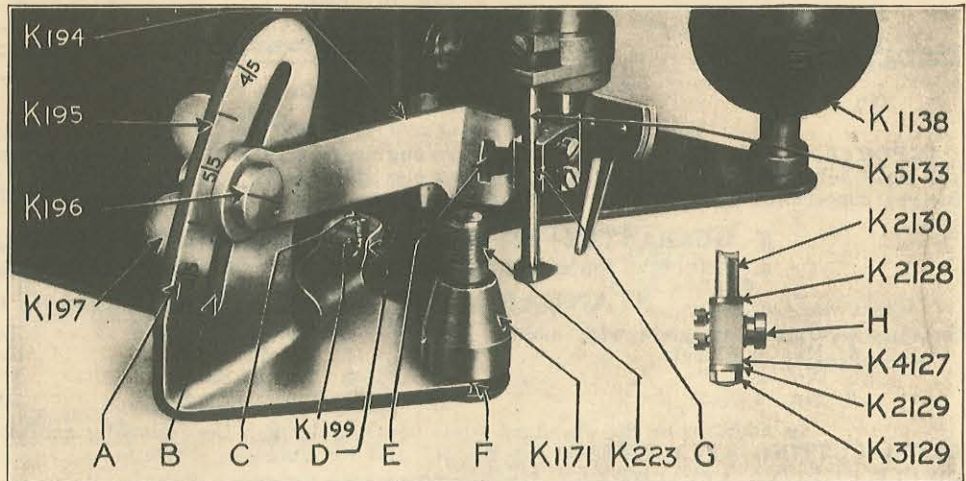

Figure 17
- a—Remove the standard chisel block by taking off the K3129 nut and K2129 washer (see figure 17.)
- c—Connect the end of the K194 chisel arm with the K195 bracket as shown in figure 17, by inserting from the front the K196 clamp screw in the hole of the chisel arm. Slip the flattened portion of the screw into the slot B in the K195 bracket. Place the K197 thumb nut on the K196 screw and tighten until firm.
**H1—ADJUST THE BEVEL ANGLE.** The bevel cutter can be set to cut a bevel of any angle between 45 and 65 degrees by loosening the K197 thumb nut and sliding the end of the chisel arm up or down until the mark in the K196 screw head is opposite the desired figure on the scale A (see figure 17.)